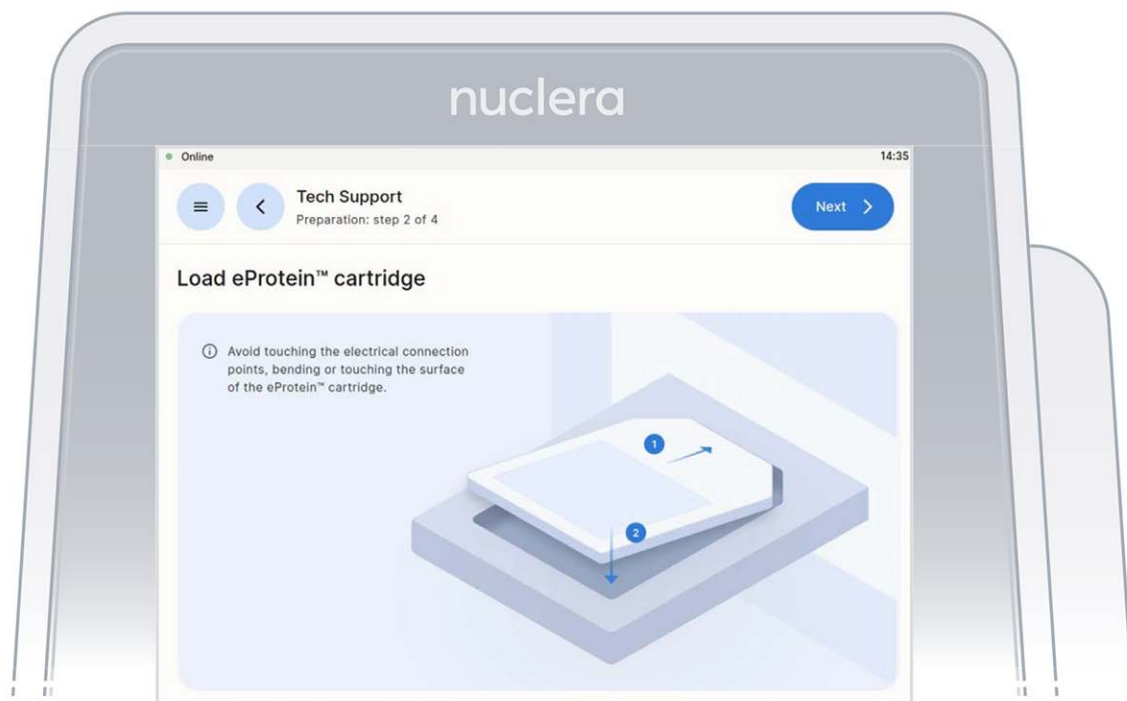

Figure 10: Checklist screen before the experiment starts.
7. Unpack and load a cartridge as shown on the screen of the eProtein Discovery instrument, place the cover on the cartridge, avoid touching the electrical connectors, and press the [Next] button (Figure 10).